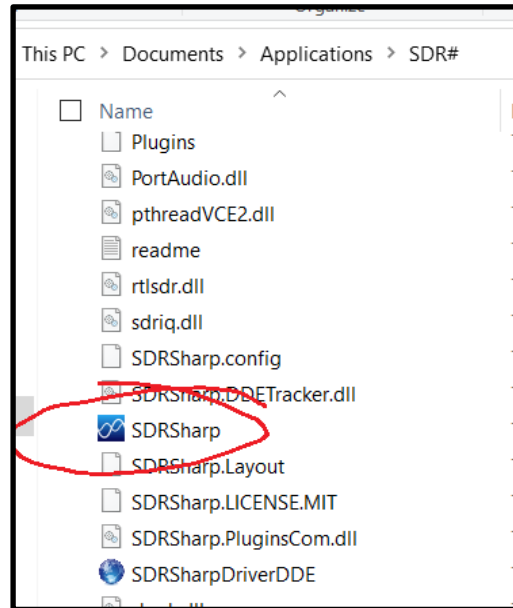

Figure 8: The SDR# icon is circled in red.
17. Open SDRSharp by clicking on the SDRSharp application icon which is in the same folder as Zadig (Figure 8).